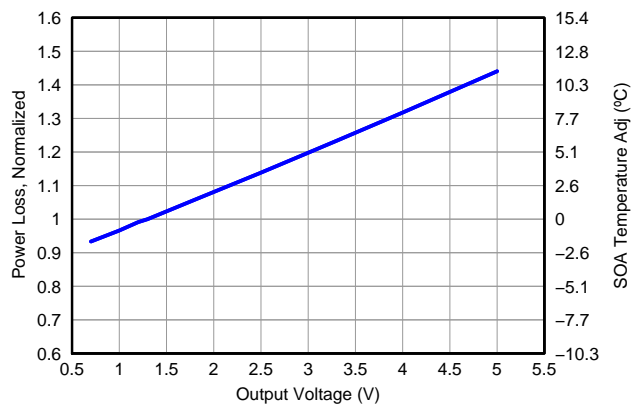

Figure 8. Normalized Power Loss vs. 输出电压
- Normalized Power Loss for output voltage ≈ 0.98 (Figure 8)
- SOA adjustment for output voltage $\approx -0.29^\circ\text{C}$ (Figure 8)